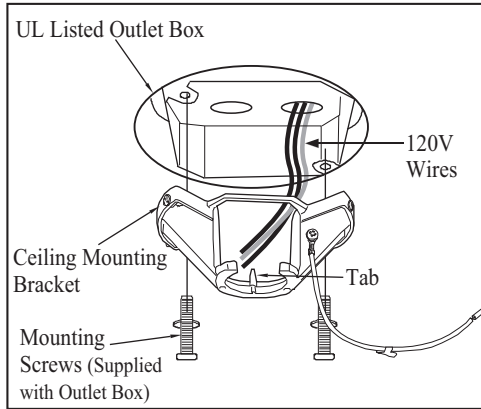

Figure 14
1. Pass the 120-volt supply wires through the center hole in the ceiling mounting bracket as shown in Figure 14.
2. Install the ceiling mounting bracket on the outlet box with the screws and washers provided with your outlet box (Figure 14). When using “close-to-ceiling” mounting, it is important that the mounting bracket be level. If necessary, use leveling washers (not included) between the mounting bracket and the outlet box. Note that the flat side of the mounting bracket is toward the outlet box. (Figure 14)